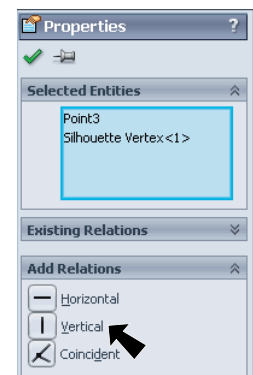

Fig. 24
Step 9. In the Property Manager under Add Relations, click **Vertical** , **Fig. 24**.